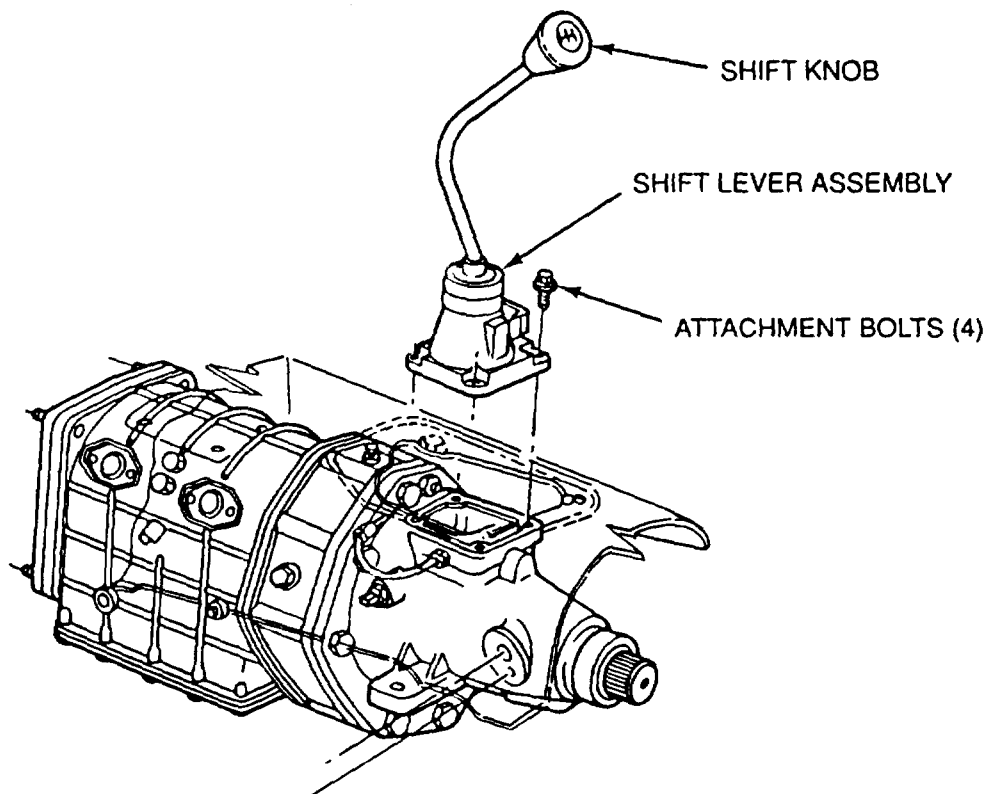

FIGURE 2
9. Remove the four bolts securing the shift lever assembly to the transmission. (See Figure 2). Discard the bolts.